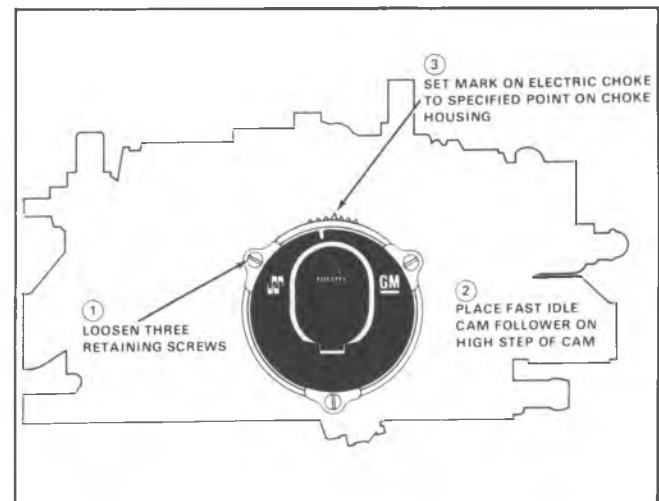

Fig. 52—Automatic Choke Coil Adjustment - Electric
Electric (Fig. 52)
6. Reinstall coil and set to proper index (Fig. 52).